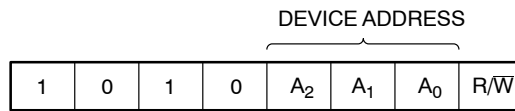

Figure 3. Slave Address Bits
The Master initiates data transfer by creating a START condition on the bus. The Master then broadcasts an 8-bit serial Slave address. The first 4 bits of the Slave address are set to 1010, for normal Read/Write operations (Figure 3). The next 3 bits, A₂, A₁ and A₀, select one of 8 possible Slave devices and must match the state of the external address pins. The last bit, R/ $\overline{W}$, specifies whether a Read (1) or Write (0) operation is to be performed.